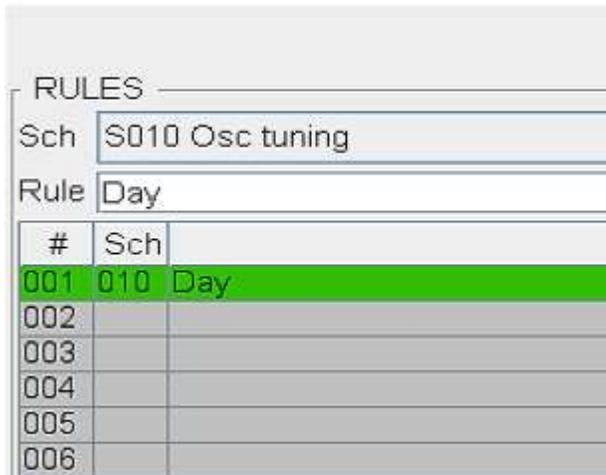

Figure 3: Osc tuning schedule shown to run as day
4.4 Navigate to DCART *EDITED PROGSCHED / SST, Rules, Campaigns* tab and make a record of the currently running schedules and their rules. Next, configure the *Osc Tuning* schedule such that it will run as the day schedule as shown in Figure 3.